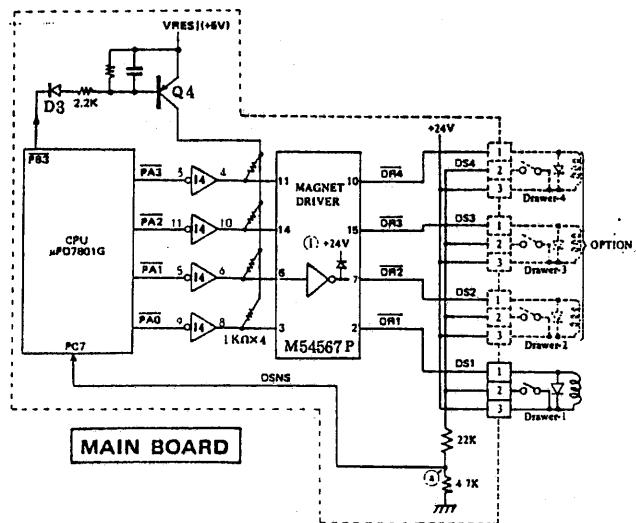

Fig. 33
Since the trigger input (negative edge trigger input) of monostable multivibrator (74LS122) shown in Fig. 33 is in a high state in this case, it does not activate the 74LS122. This keeps its output \overline{Q} (\overline{WAIT}) in a high state and so the CPU interrupt request pin INT0 (active high) is held at a low level, as well. Consequently, it does not effect the CPU.
The trigger input (negative edge trigger input) of the monomultivibrator (74LS122) shown in Fig. 33 turns to low level triggering the 74LS122 (4) so that the output pin \bar{Q} (WAIT) goes low for a period of about 10 microsecond. This makes the CPU interrupt request INTO (active high) turn high to apply the interrupt to the CPU. With this, the program branches to the specified program address.